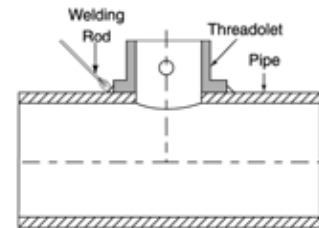

Figure 4. Thread-o-let hardware installation
2. The hole should not be blocked. Center the 2" thread-o-let over hole (see Figure 4).